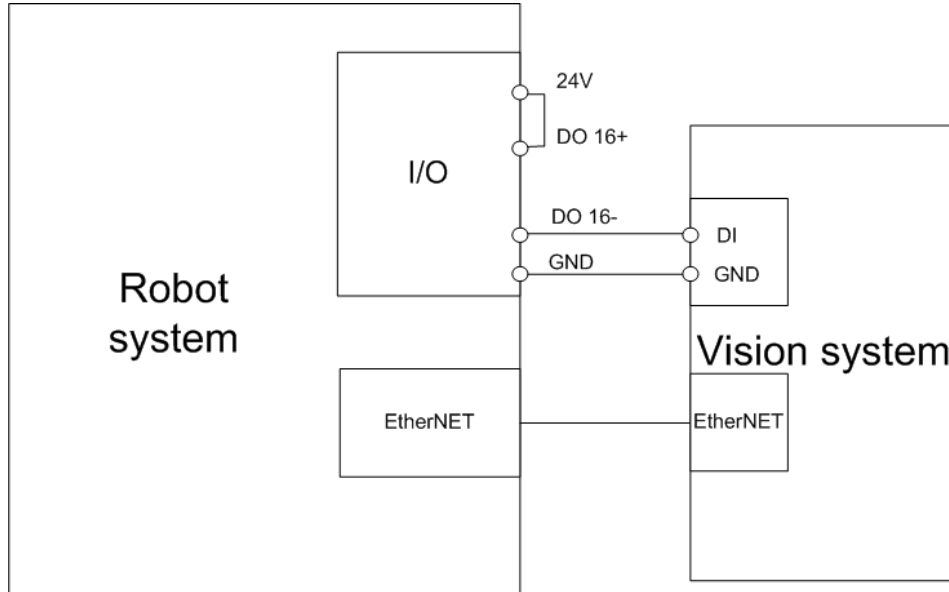

Figure 3.4 Vision system connection (1)
- If the robot system version is earlier than **V3.0.0.20190219121343**, the **DO 16** is triggered to take photos for detecting, as shown in Figure 3.4. You can check the robot system version on the **Config>BasicConfig>Version** page of the DobotSCStudio.